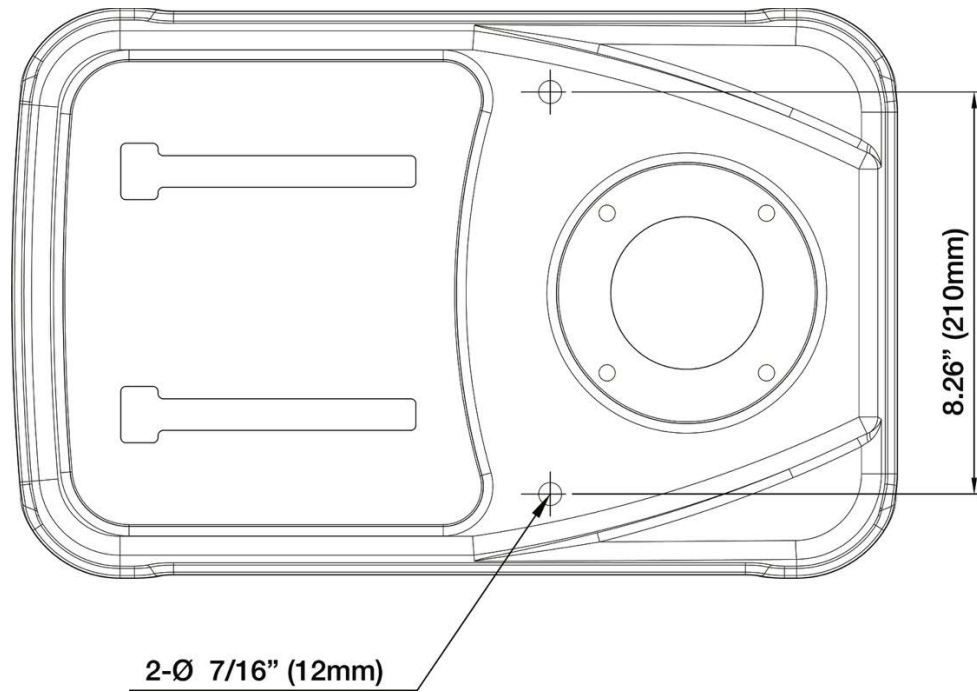

Figure 4-1: Hole Centers
3. The base may be secured to floor with lag screws (not provided) through two holes in the base. Refer to Figure 4-1 for hole spacing.